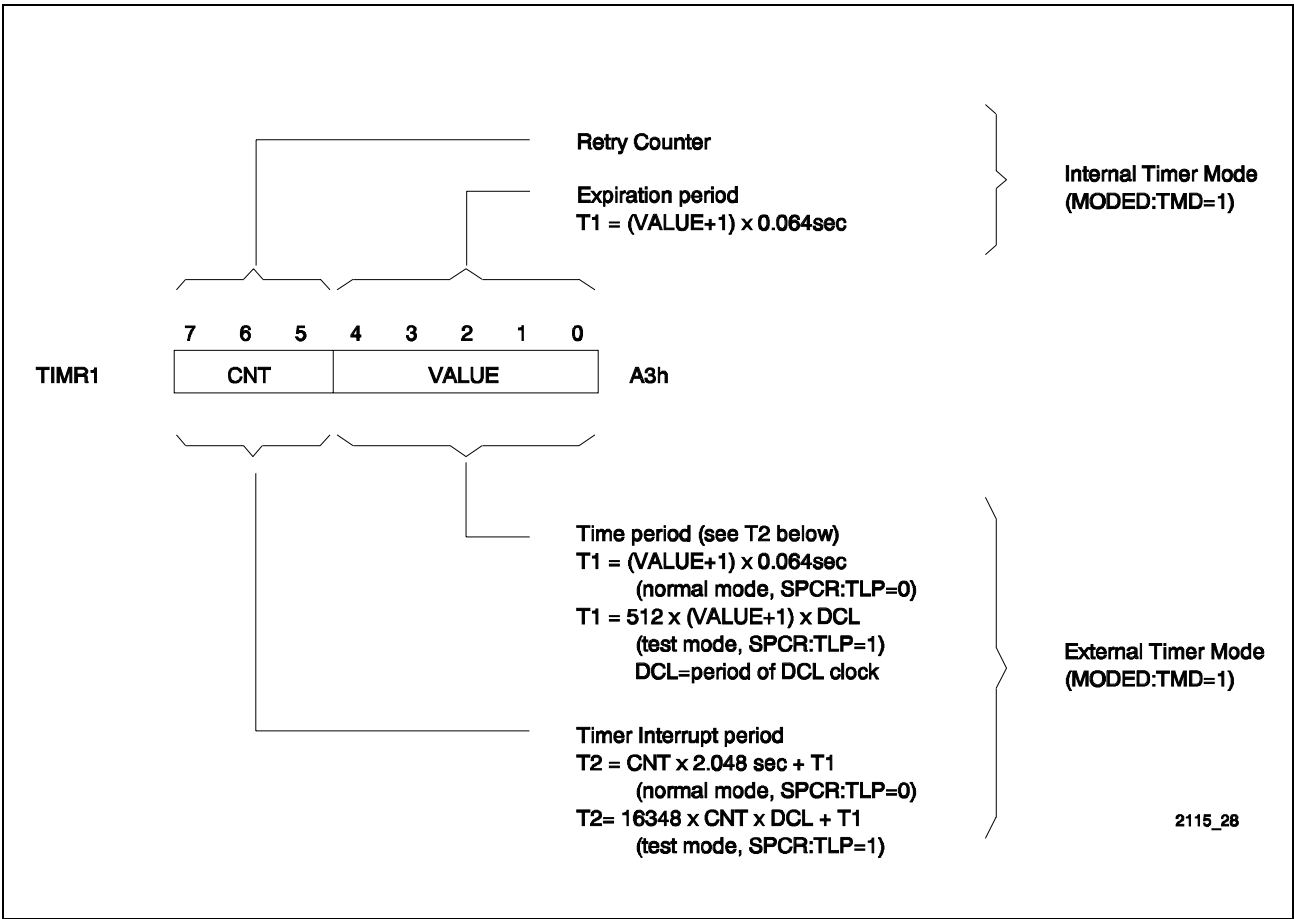

Figure 48 Timer 1 Register
**Timer 1** provides two modes of operation which can be selected by the 'Timer Mode' bit in MODED register (**figure 48**):